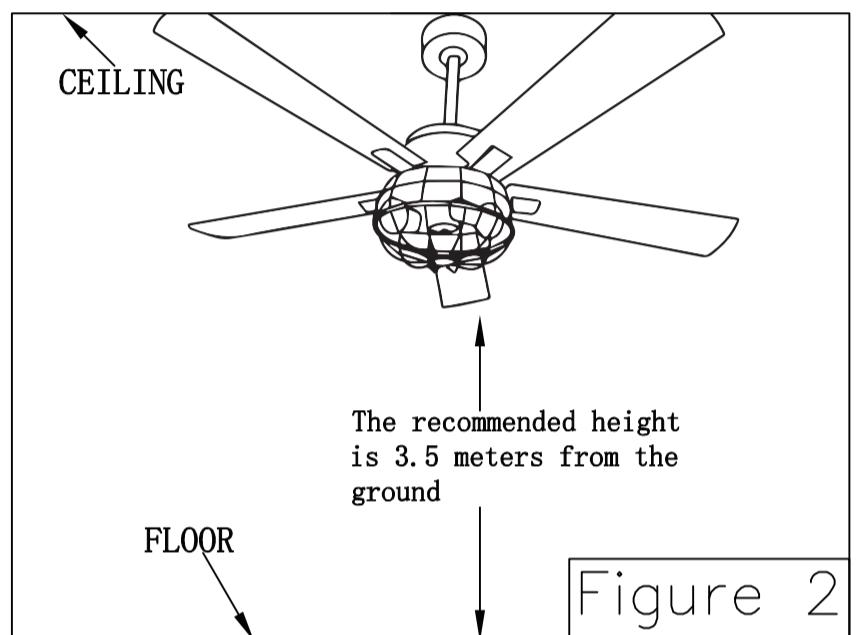

Figure 2
**WARNING:** The fan must be hung with at least 3.5M from floor to ceiling fan. (Figure 2)